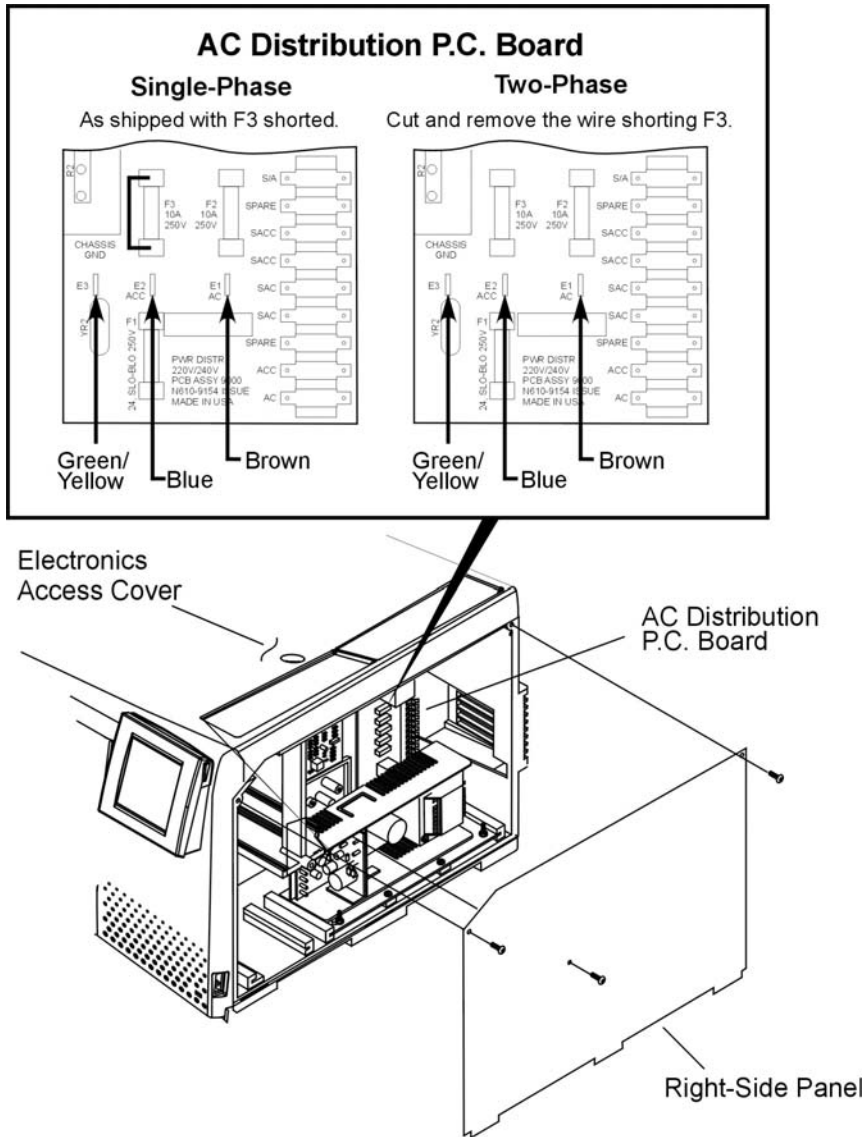

Figure 23. AC Distribution P.C. board connections for countries that use single-phase or two-phase power.
- Connect the brown wire to line (AC).
3. Verify that the brown wire from the line filter is connected to E1, that the blue wire from the line filter is connected to E2, and that the yellow/green wire is connected to E3 on the AC Distribution P.C. board (see Figure 23).
3. Verify that the brown wire from the line filter is connected to E1, that the blue wire from the line filter is connected to E2, and that the green/yellow wire is connected to E3 on the AC Distribution P.C. board (see Figure 23).